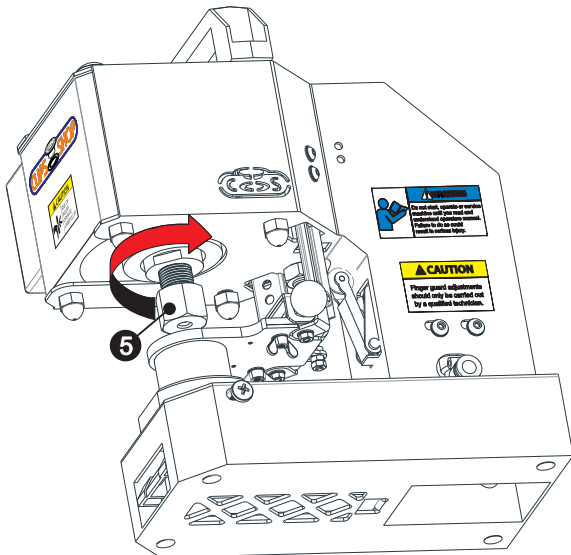

fig. 49
Install the upper die adaptor❺ by rotating it in the arrow direction as shown in above (fig. 49).